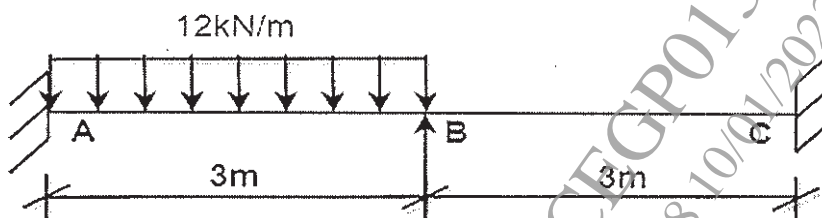

Figure 2
b) Find the rotation θ_B for the beam with uniform flexural rigidity as shown in figure 2. [6]